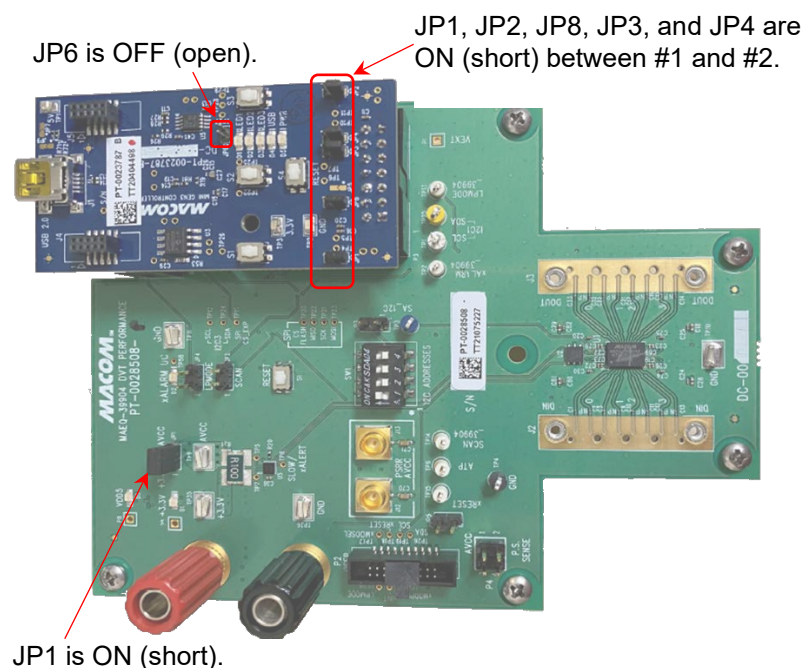

Figure 3.1-1 EVM Jumper Settings
2. Verify jumpers are present in the positions shown in Figure 3.1-1 and Table 3.1-1.